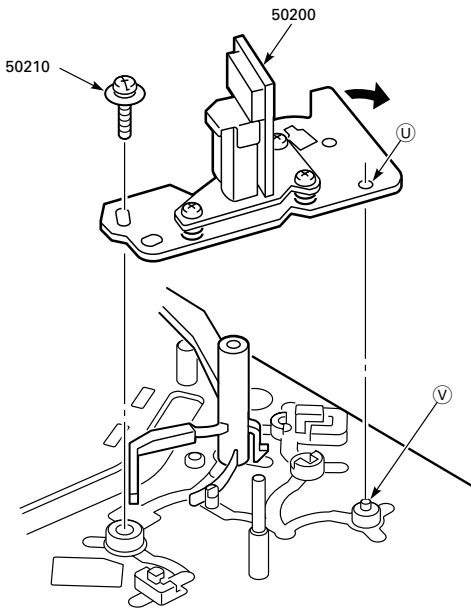

Fig. 8.36
– Undo the screw (Pos. 50210), press the R/P head assy (Pos. 50200) in the direction of the arrow as shown in Fig. 8.36 and remove it upwards.
**Note:** Align the hole (U) of the R/P head assy (Pos. 50200) and pin (V) on the mechanism chassis. Subsequently, adjust the tape path and tracking position (X value, refer to point 9. „Adjustments“).